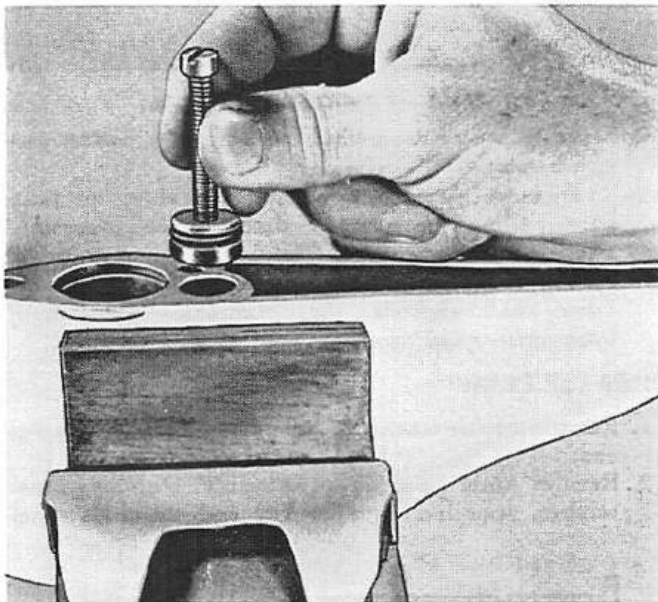

Figure 4. Removing Plug on Shift Linkage Cartridge
2. Remove seal in bottom of housing (middle assembly) by using $1/4''$ -20 screw, turned into seal plug to withdraw assembly. (Figure 4)